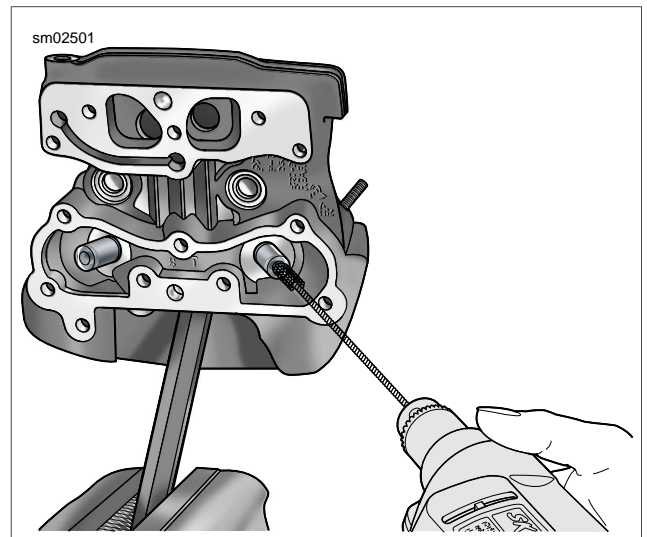

Figure 3-93. Honing Valve Guide Bore
8. See Figure 3-93. Obtain the VALVE GUIDE HONE (Part No. B-45525) and REAMER LUBRICANT (Part No. HD-39964).